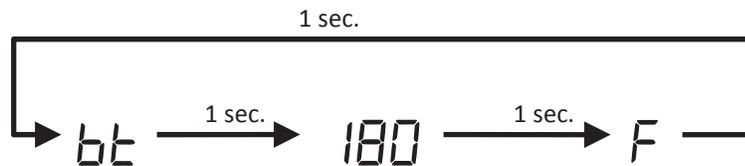

FIGURE 11.4: TYPICAL OPERATING MODE DISPLAY (BOILER TEMP SHOWN)
- 2) Operating Mode - Provides additional information about the current status of the boiler. Operating mode is entered by pressing the **I** button shown in Figure 11.1. When this button is first pressed in Status mode, the display will alternately display $h\text{E}$ and the current boiler water temperature as shown in Figure 11.4. Pressing the **I** button again will display the next line item shown in Table 11.3. In the same manner it is possible to advance through all of the “parameters” shown in Table 11.3. To return to Status mode, press **I** repeatedly until $5\text{E}9$ once again appears on the display. Alternatively, the control will return to Status mode if no key is touched for 30 minutes.
In operating mode, holding either the \uparrow or \downarrow button while viewing a given parameter will keep the display on the actual reading. For example, pressing \uparrow while reading boiler temperature as shown in Figure 11.4 will keep the display on 180 for as long as the button is held. This makes it easier to view readings “live” if they are changing rapidly.